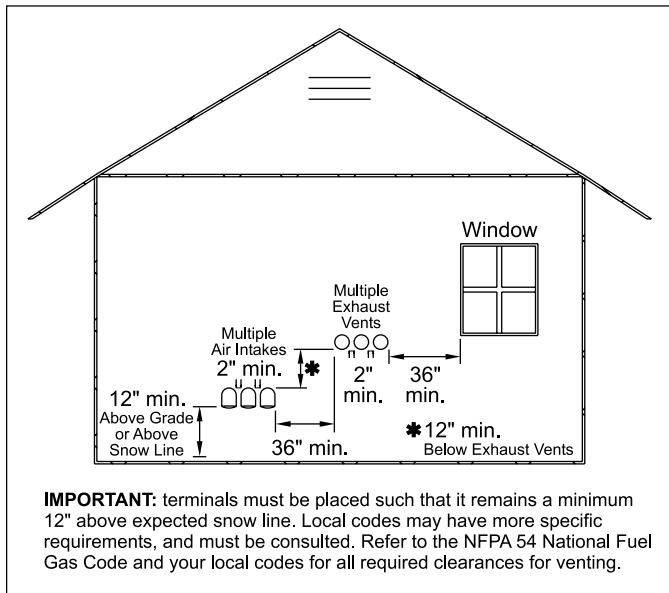

Figure 12. Multiple Side-Wall Terminals, Air and Vent.
6. Multiple vent kits should be installed such that the horizontal distance between outlet group and inlet group is 36" (90cm) (see Figure 12).